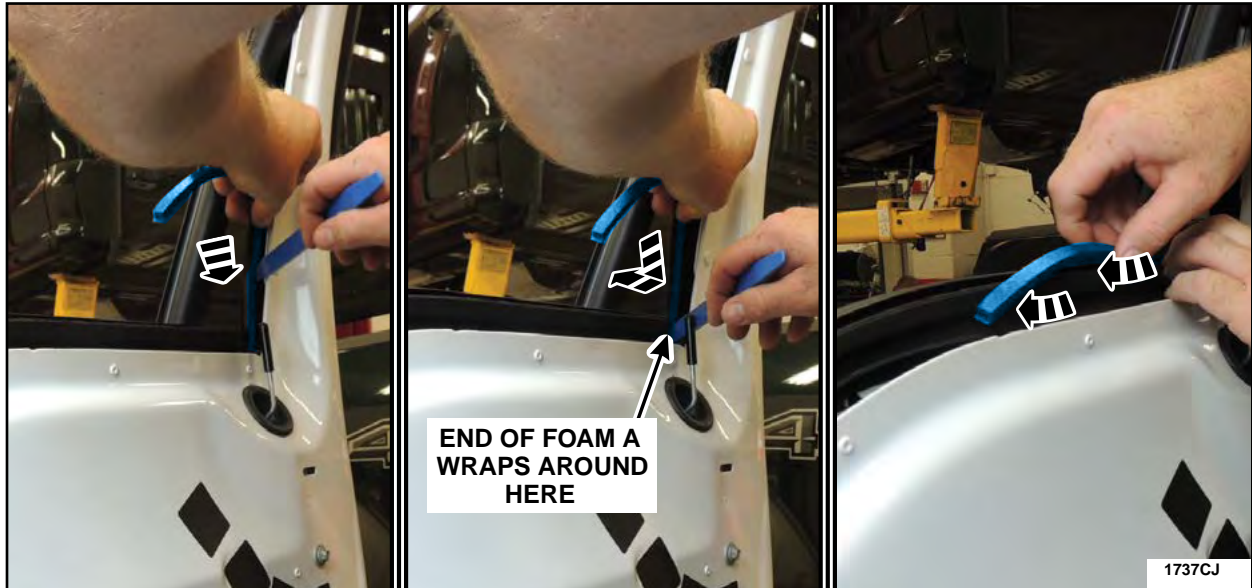

FIGURE 20
- Using a small trim removal tool, install Foam A to the outer belt moulding on top of the bead of silicone that was previously applied. Both of the outer belt moulding clips need to be covered by the Foam A. See Figures 20 and 21.